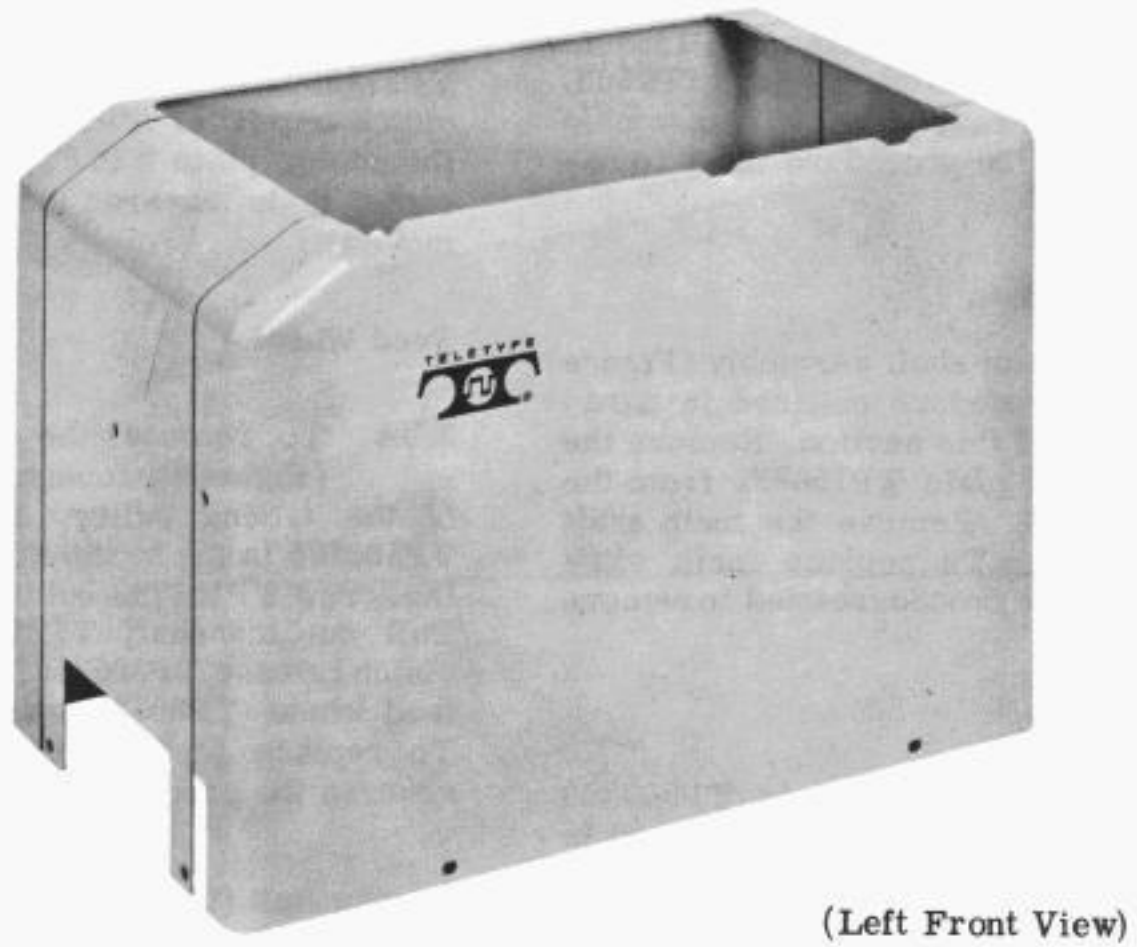

Figure 6 - Cover Assembly
2.03 To remove the reader cover TP305339 (Figure 6), remove six screws TP110434 and raise cover. To replace the cover, reverse the procedure used in removing it.